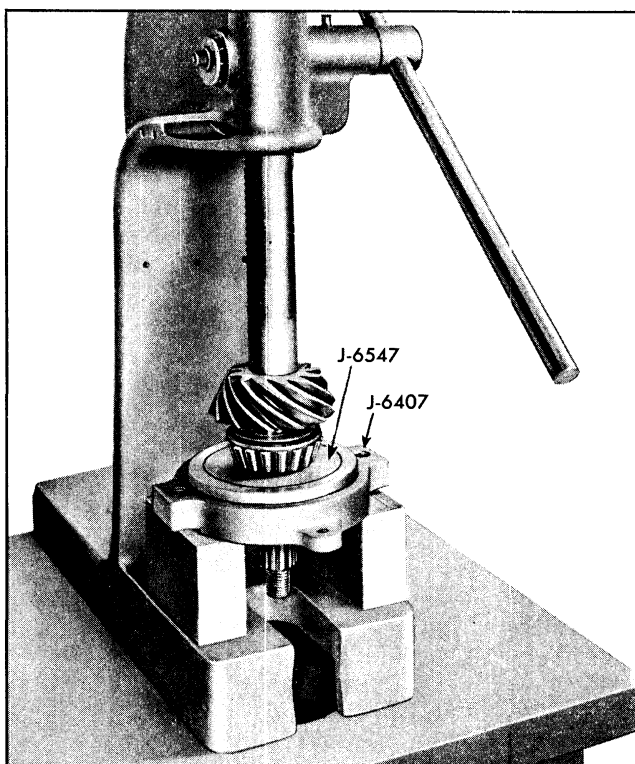

Fig. 4-47 Installing Rear Bearing with J-6547 and J-6407
9. Using bearing installer J-6547 and press plate J-6407, press rear pinion bearing into place (Fig. 4-47).